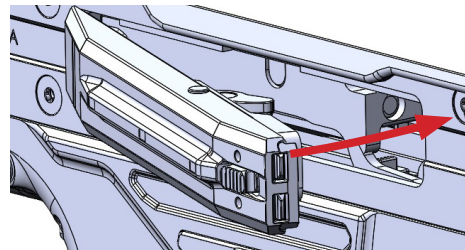

Fig. h-4
5. Replace the ejection panel by inserting the front of the panels lips to the inside of the receiver ejection window, then pressing the back of each sides panels until the release tab snaps in place. (Fig. h-4)